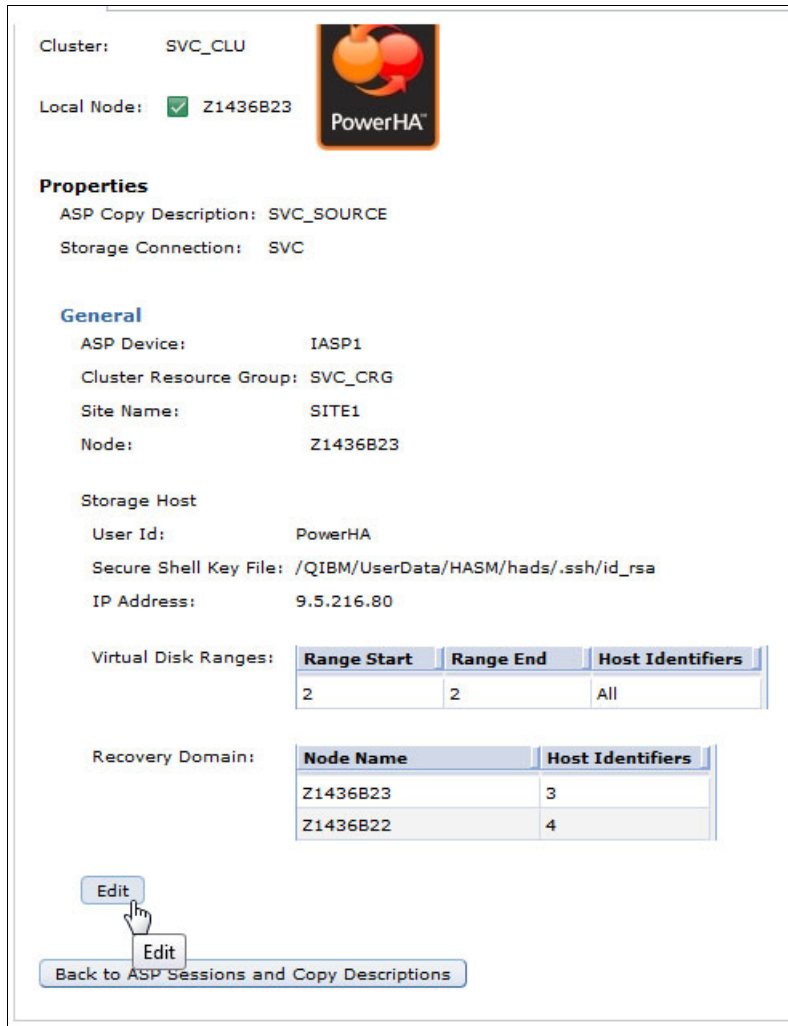

Figure 4-61 Adding LUNs, editing properties
- c. In the Properties window, click **Edit** to change the ASP Copy Description, as shown in Figure 4-61.